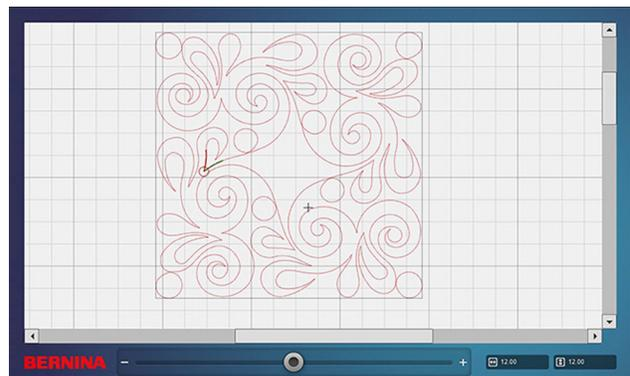

Fig. 20
2. Select the Swirls Paisley design (Fig. 20) (it will now be highlighted in red) and open the Mask tool.